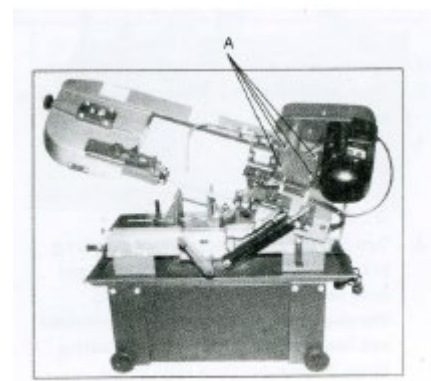

Fig.17
2. Loosen the screws (A – fig. 17) on the gearbox and remove the cover gasket.